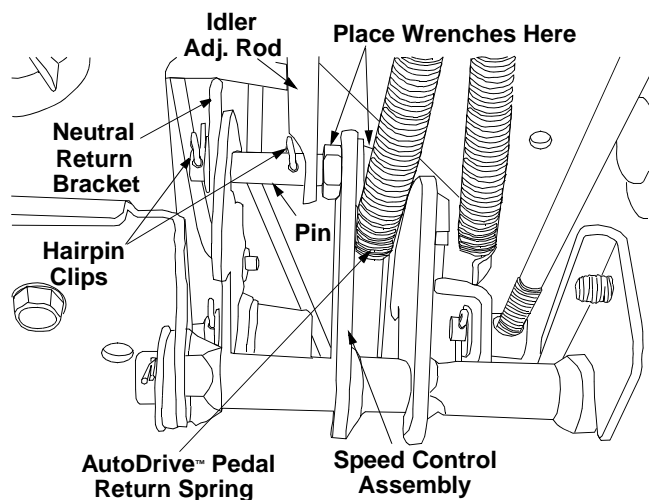

Figure 18
1. Locate the speed control assembly on the underside of the steering support bracket. See Figure 18.
2. Remove both hairpin clips from the pin which is fastened to the speed control assembly (be careful not to lose the small flat washers found on the pin). See Figure 18.
4. Using two 9/16" wrenches, remove the pin from the speed control assembly. See Figure 18.